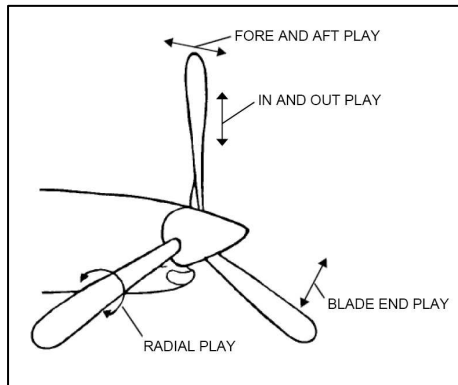

Figure 6-1
- (1) Remove spinnerdome and check for cracks or damage. Check front and rear spinner plates for cracks and fixing.
- (2) Inspect outside condition of the hub and parts for cracks, corrosion, deterioration. Check all safety means to be intact.
- (3) Inspect blade shank and hub for oil and grease leaks.
- (4) Check tightness of flange bolts or nuts with appropriate torque (refer to section Installation).
- (5) If de-icing exist, check de-icers and wire harness for condition and fixing. Check brushes and slip ring for abnormal wear.
- (6) Use a clean cloth soaked in soap water to properly clean the blades from all dirt. Use 10x magnifying glass to inspect the blade surface for cracks with special attention to the leading edge and face side of the blade. If crack is detected or suspected or in case of any doubt remove the propeller from service and contact Avia Propeller.
- (7) Check the blade play according to blade play limits (see figure 6-1):